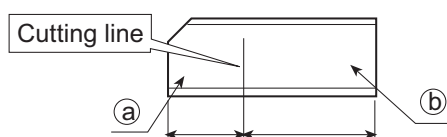

Fig. 4
- (1) Ornament panel can be mounted on ceiling as high as 3 m.
- (2) Please install pad as accessory.
① Cut open the pad along cutting line. Use part (a) only and discard part (b). (Refer to Fig. 4)